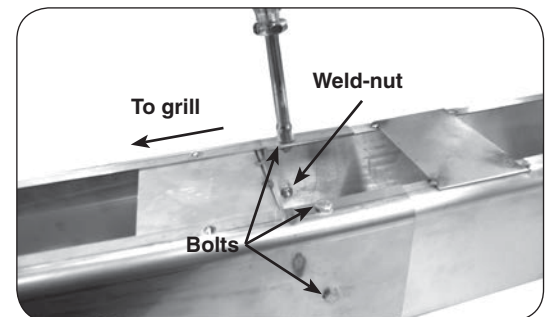

Fig. 19-2 Fasten extension to post
2. From outside the joined post and extension, insert one of the  $\frac{1}{4}$  X 20"-5/8 bolts (supplied) into each of the five (5) bolt holes and tighten each using a  $\frac{7}{16}$ " socket driver or wrench (see Fig. 19-2).